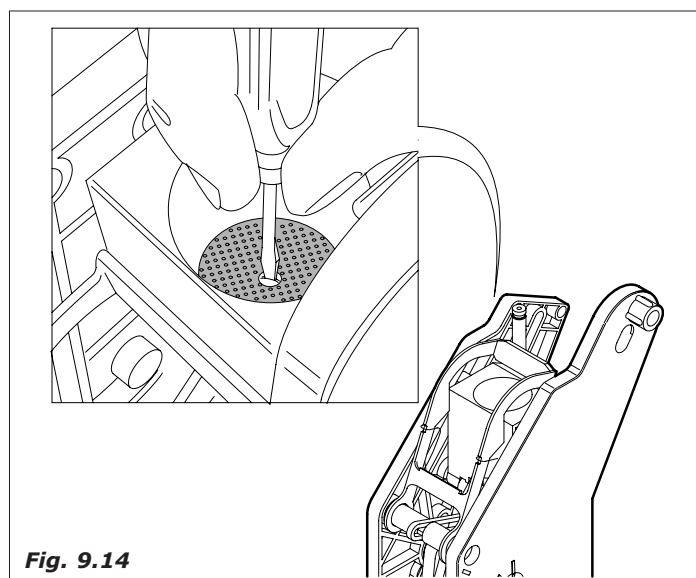

Fig. 9.14
- Loosen the screw (*Fig. 9.14-pos.1*), wash the filter and replace if necessary.